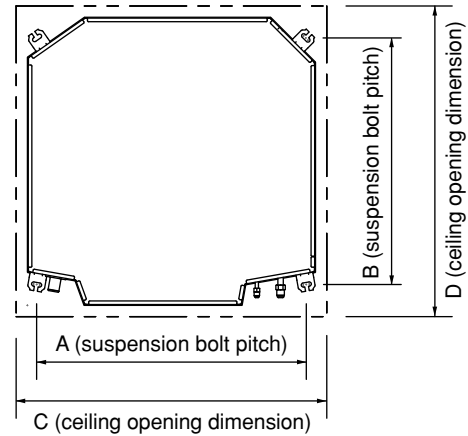

Fig. 3-33
- (2) Follow Fig. 3-33 and Table 3-2 to make the holes in the ceiling.